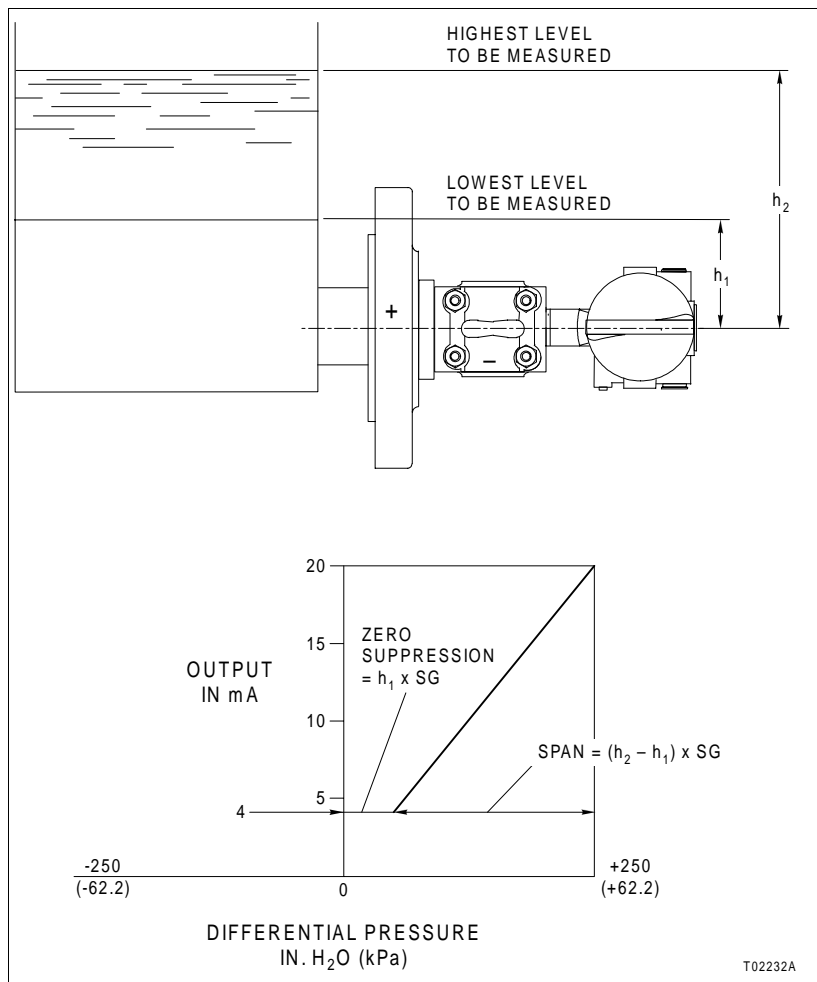

Figure 3-4. Open Tank Level Measurement
Refer to Figures 3-4, 3-5, and 3-6 for illustrations of typical piping arrangements.
In an open vessel, level can be measured by making a pressure measurement (P) at the bottom of the vessel (Fig. 3-4). The pressure at the transmitter high pressure (+) connection is equal to the product of the height (h_2) and the specific gravity (SG) of the liquid. Since SG is known, and P is the measured pressure, then:
3. The output of the transmitter is proportional to the level of the liquid above the cell multiplied by the specific gravity of the liquid. If the zero point of the desired level range is above the cell, the primary lower range value must be changed to reflect this. Refer to **Section 4** and **Section 5** for more information. Refer to **Figure 3-4** for a graphical representation of this application.